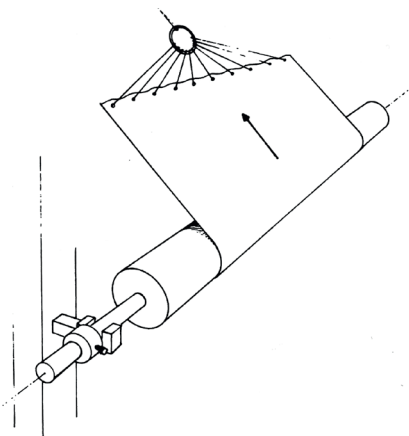

FIGURE 4. Ring bridle arrangement.
8. If you are using a ring bridle arrangement (Figure 4) run off the old fabric into the basement so that it threads the rope attached to the new fabric through the dryer section. For this to work properly, each of the ropes attached to the fabric and ring must carry an equal portion of the load. If your old fabric is no longer present, thread the rope by hand. In either case, it is essential to run the rope straight along the center line of the machine.